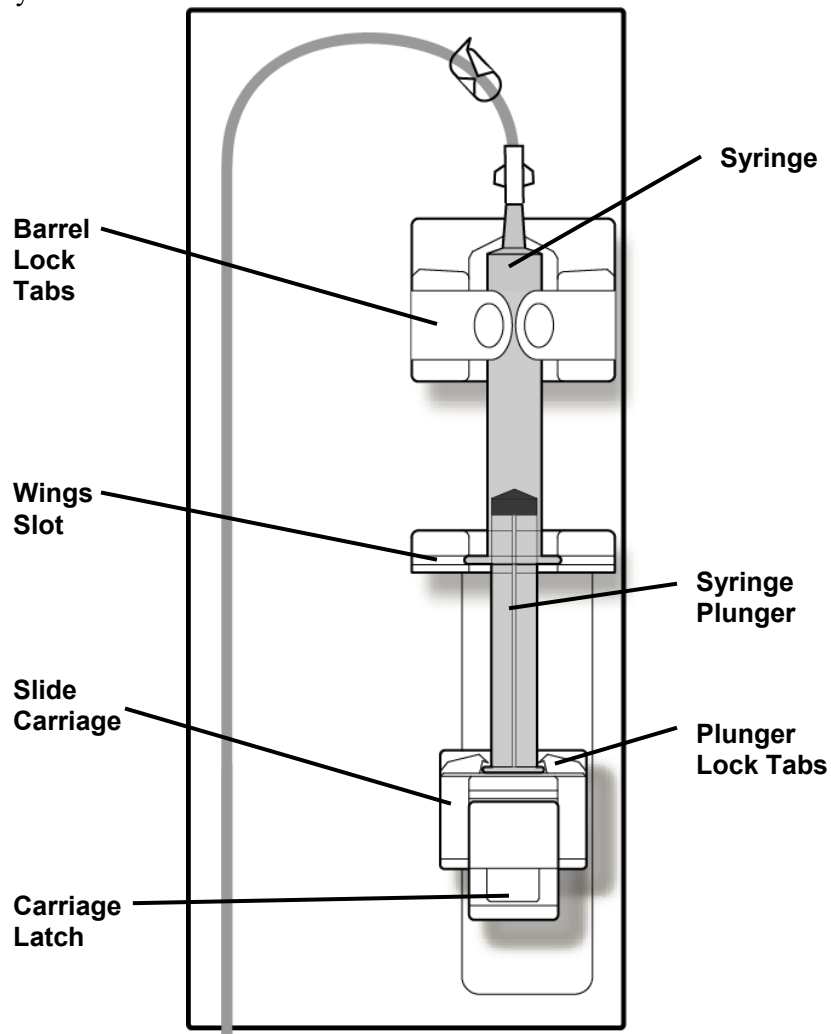

Figure 42 – The 2008K² Heparin Pump Module with Syringe Loaded and Connected
6. Pull back one of the barrel lock tabs and press the barrel of the syringe into place. Slide the barrel wings of the syringe into the wings slot on the pump module. With the barrel in place, release the barrel lock tab (see Figure 42).